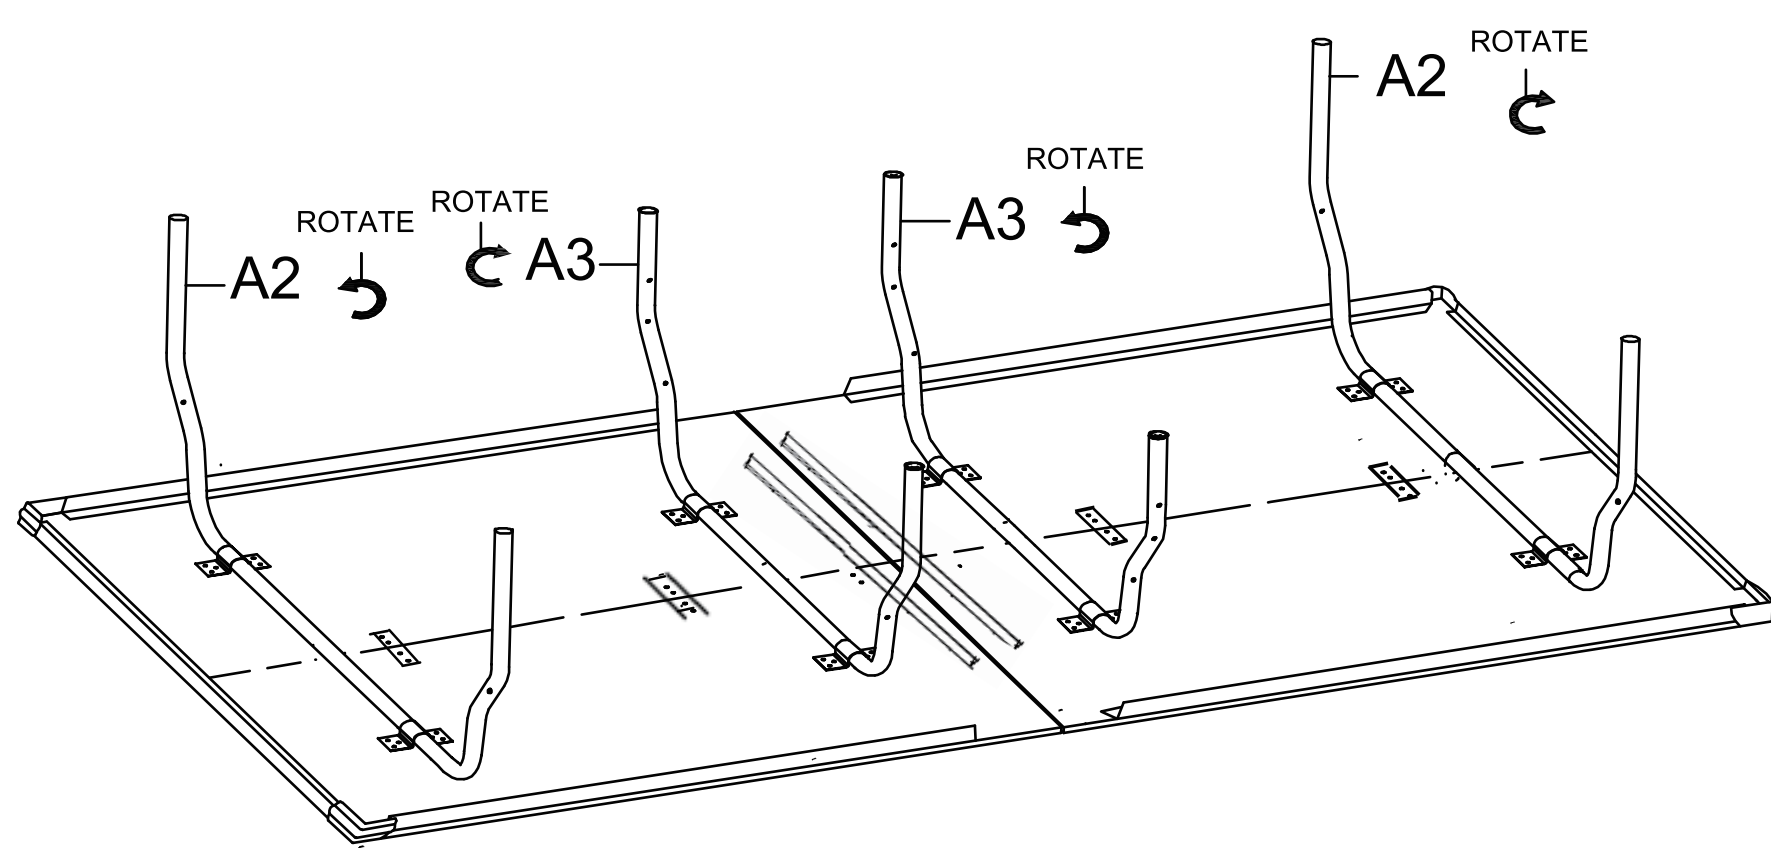

FIGURE 7
STEP7 : Place both "U" leg tubes A2 and A3 in a straight up 90 degree position as shown in FIGURE 7.